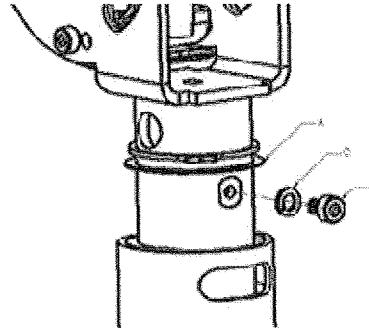
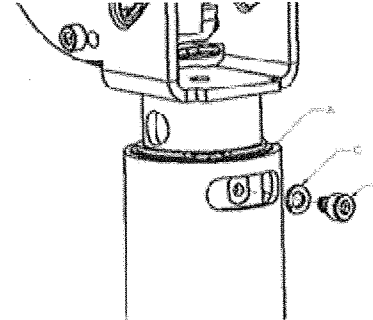

Figure 25: Remove Stop Screw
Figure 26: Install Stop Screw
2. Once the covers are removed, using a 3mm Allen key remove the rotational stop screw (B) from the back of the spring arm post. Take care to ensure that the lock washer (C) and shim washer (A) do not fall off during this step. See Figure 25.
4. Slide the spring arm into the mounting post. Ensure the washer (A) is present and did not fall off the spring arm shaft.
5. Using the 3mm Allen wrench, fasten the rotational stop screw with lock washer into the back of the spring arm post. This can be seen in Figure 26 below.